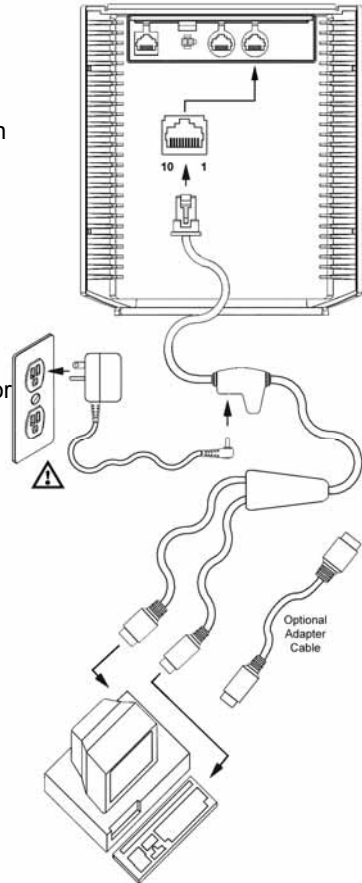

Figure 2: Keyboard Wedge Interfaces
3. Connect the PowerLink cable to the 10-pin KBW interface jack. It is the 2nd **round** opening from the left side of the MS7320 (see figure 2).